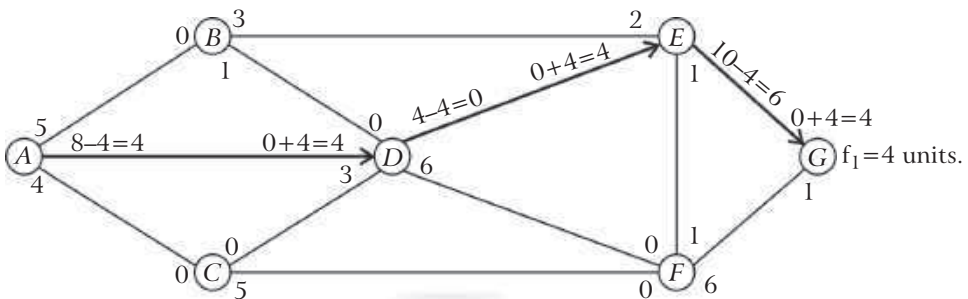

Fig. 8.34
Step 3: Subtracting f_1 (i.e. 4) from the flow capacities in the forward direction and adding to flow capacities in the backward direction of each arc of the route $A - D - E - G$, we get the following network (residue graph) in fig. 8.34.